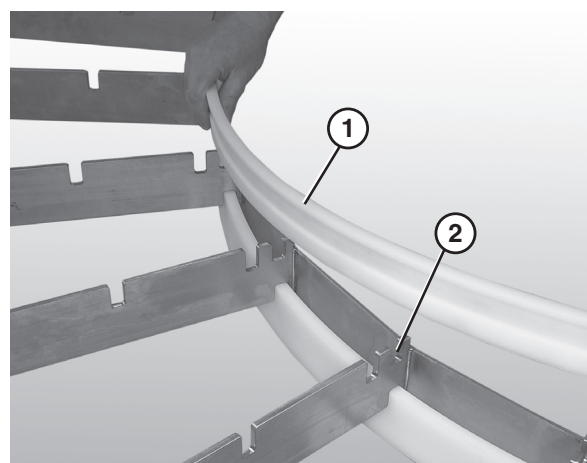

Figure 35
1. Insert the inside curve top wear strip (**Figure 35, item 1**) into the innermost slot (**Figure 35, item 2**) on the inside of the frame.